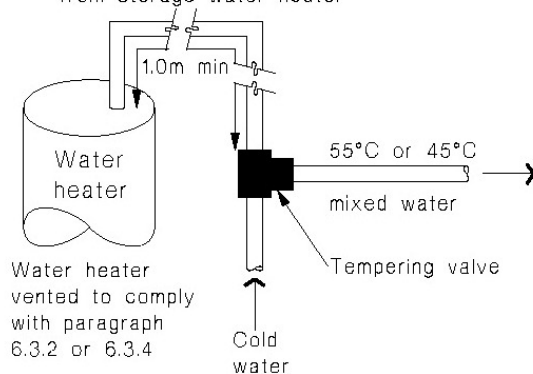

**Figure 16: Tempering Valve Installation**
**Tempering Valve Installation (NZBC G12/AS1 Fig 16)**